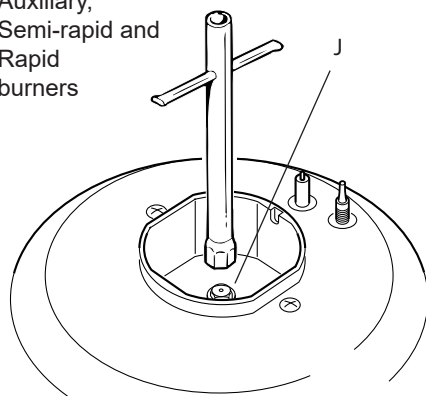

Fig. 2.4
- Using a wrench, substitute the nozzle injectors "J" (figs. 2.4, 2.5) with those most suitable for the kind of gas for which it is to be used.